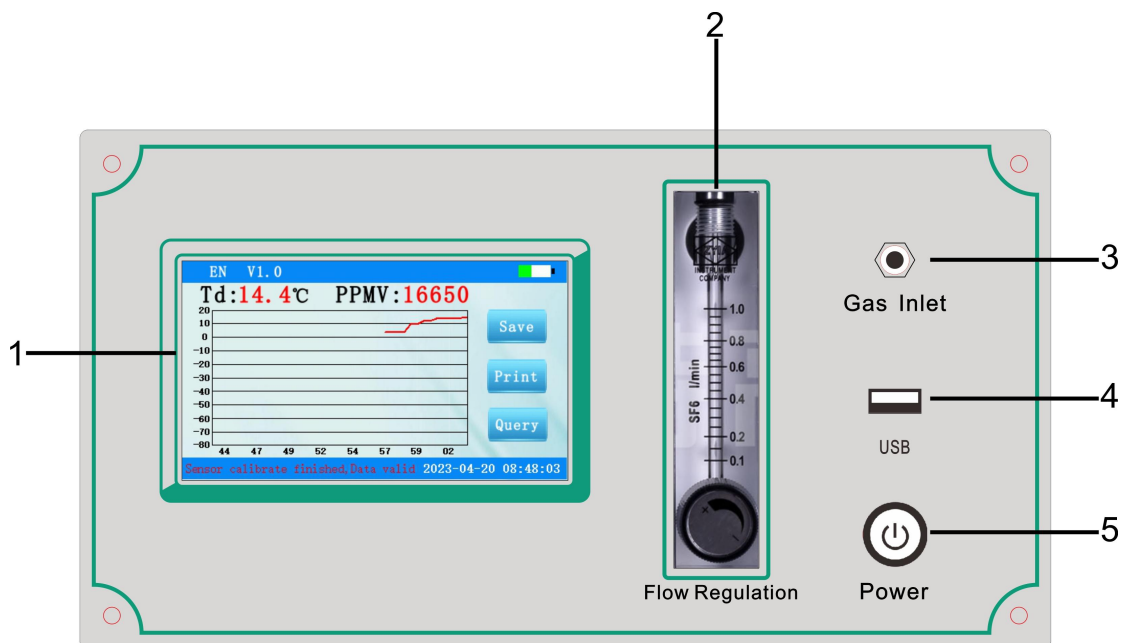

Figure 1 Front panel layout
1. The layout diagram of the front panel of the instrument is shown in Figure 1.